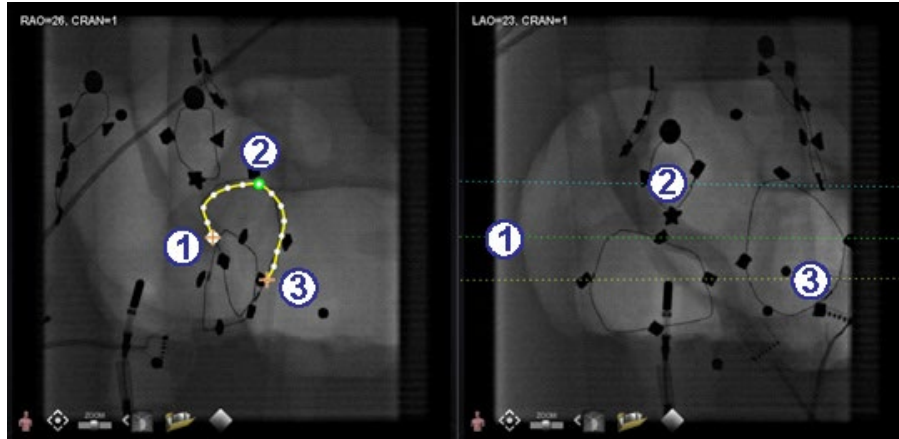

Figure 125. Proximal, selected, and distal points
- ① The green dotted line indicates the epipolar line of the proximal point. In **Figure 125**, the proximal anchor point has a solid circle behind the orange cross.
- ② The yellow dotted line indicates the epipolar line of the distal point.